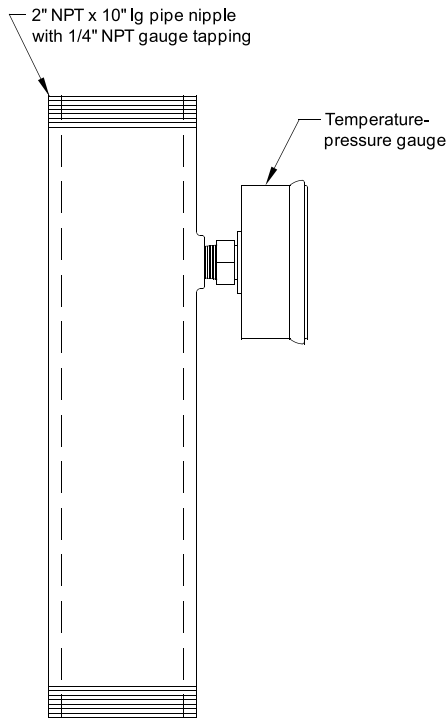

Figure 3-4: Temperature-Pressure Gauge Installation
- Standard Temperature - Pressure Gauge Piping. See Figure 3-4.